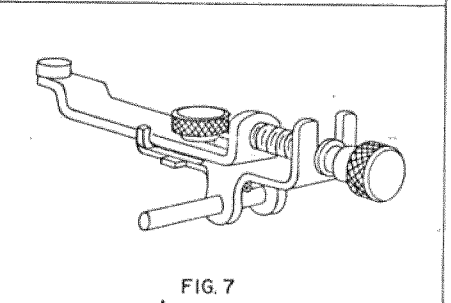

FIG. 7
**FIG. 7, FORMICA CUTTER ATTACHMENT, NO. 2573**—Formica, phenolics and laminates with similar bonding agents are much too hard to cut successfully with ordinary tools. This special router attachment, however, enables you to hold the thin sheets firmly for accurate cutting and edging. The special carbide tipped bit included with this attachment will clean off the stubborn edges smoothly, without chipping or ripping.